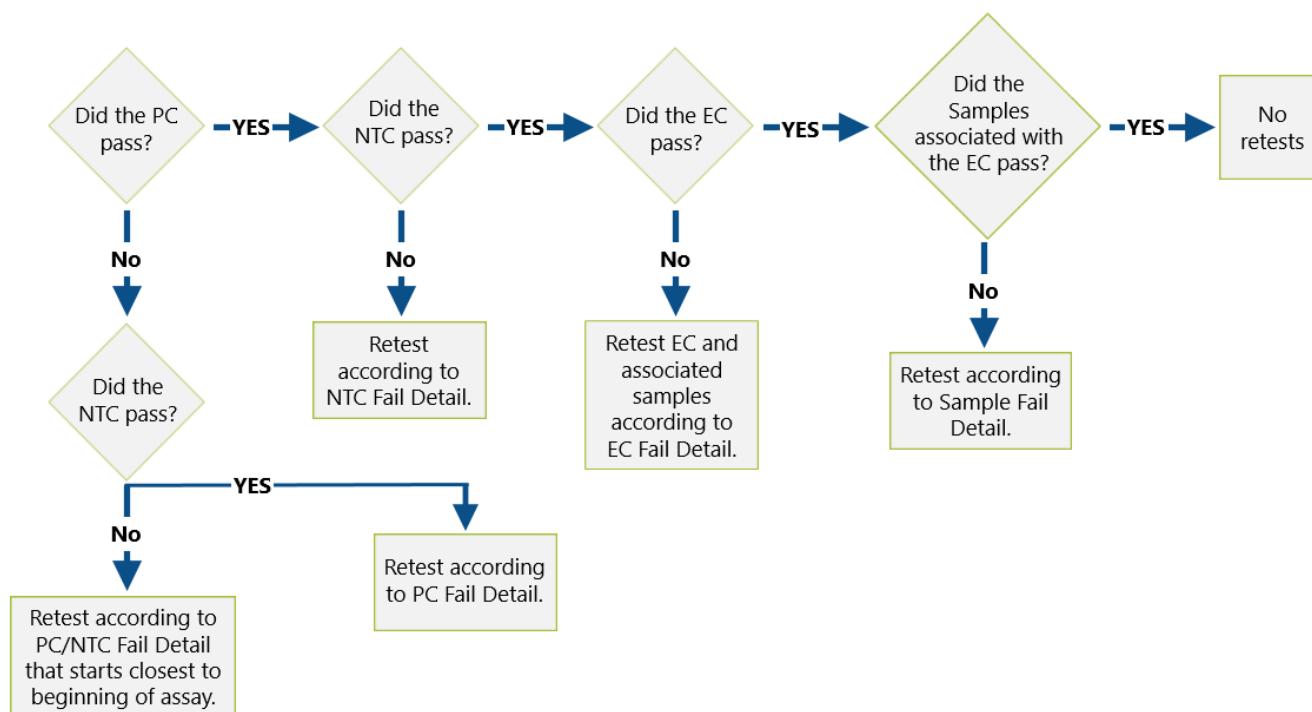

Figure 7: Retest hierarchy diagram.
- 13.4.2. The hierarchy of retesting is 1) invalid ITD or TKD Positive Control (PC) or No Template Control (NTC) (see Section 13.1); 2) invalid Extraction Control (EC) within a valid run (see Section 13.2); and 3) invalid samples within a valid run (see section 13.3). Figure 7 diagrams the hierarchy of retesting.